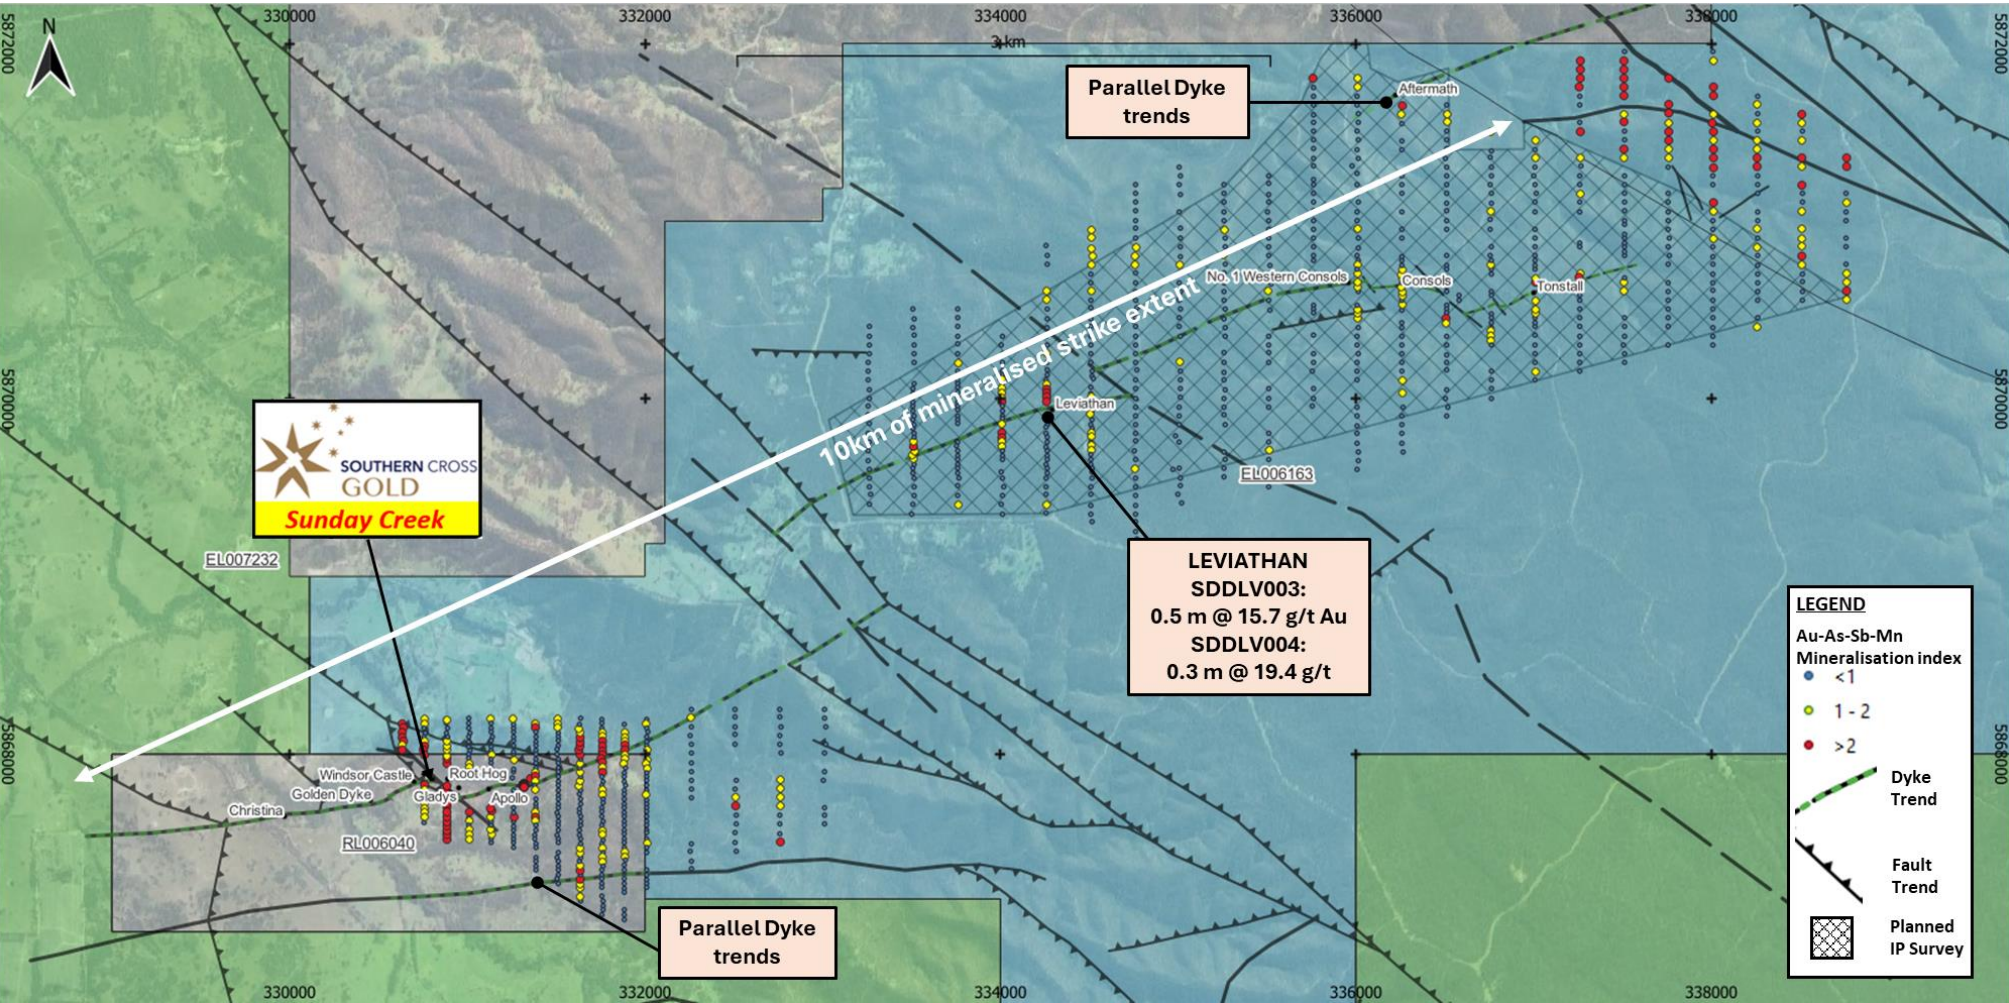

Figure 4: Location of the Sunday Creek project, along with the 100% owned Redcastle Gold-Antimony Project
- Results announced from drill hole SDDSC141 at the Golden Dyke prospect, at the 100%-owned Sunday Creek Gold-Antimony Project in Victoria (Figure 4).
Sunday Creek (Figure 4) is an epizonal gold-antimony deposit formed in the late Devonian (like Fosterville, Costerfield and Redcastle), 60 million years later than mesozonal gold systems formed in Victoria (for example Ballarat and Bendigo). Epizonal deposits are a form of orogenic gold deposit classified according to their depth of formation: epizonal (<6 km), mesozonal (6-12 km) and hypozonal (>12 km).